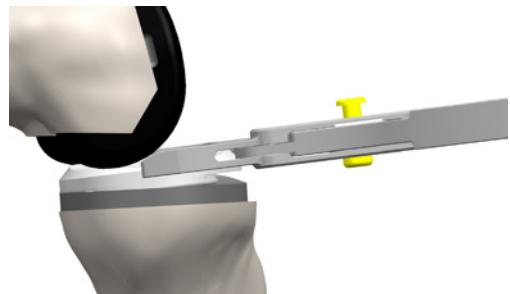

Figure 60
- 7 Carefully guide the insert implant posteriorly into the pocket in the baseplate; ensure the dove tail locking tab is fully engaged with the baseplate (Figure 60).